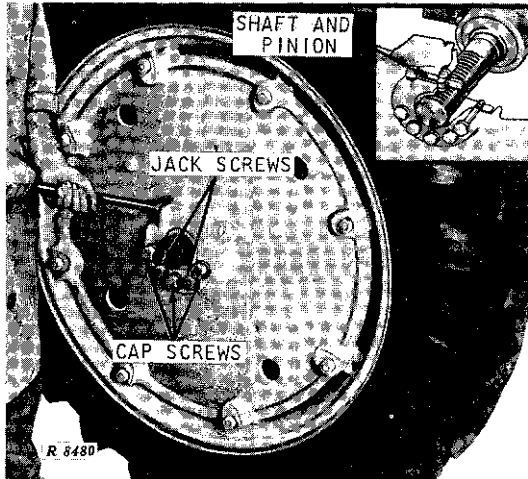

Fig. 220-10-1 - Rear Wheel Adjusting Shaft and Pinion
The cast disk rear wheels are equipped with demountable rims. The wheels are moved in or out on the axles by means of a shaft and pinion which engages a rack on the axle (Fig. 220-10-1). Where it is necessary to obtain extreme ranges of tread adjustment, an offset "dished" cast disk wheel is used.
Locate jack screws and lower pinion half-sleeve (8) retaining cap screws as shown in Figure 220-10-1.